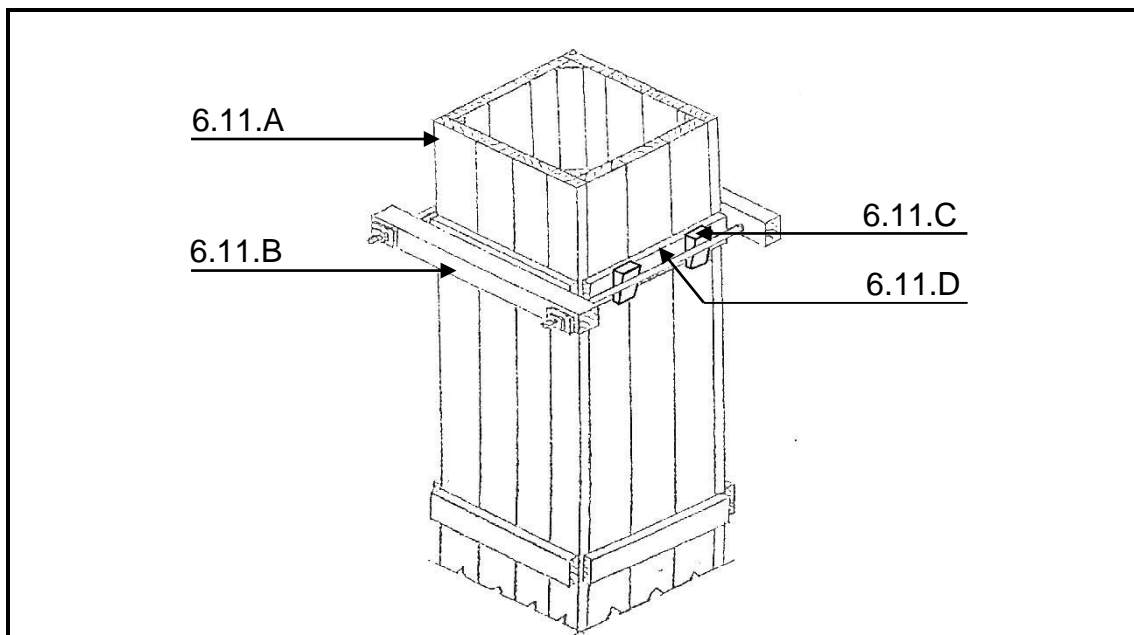

FIGURE 6.11
- 6.11 Name the parts 6.11.A to 6.11.D of the formwork in FIGURE 6.11.